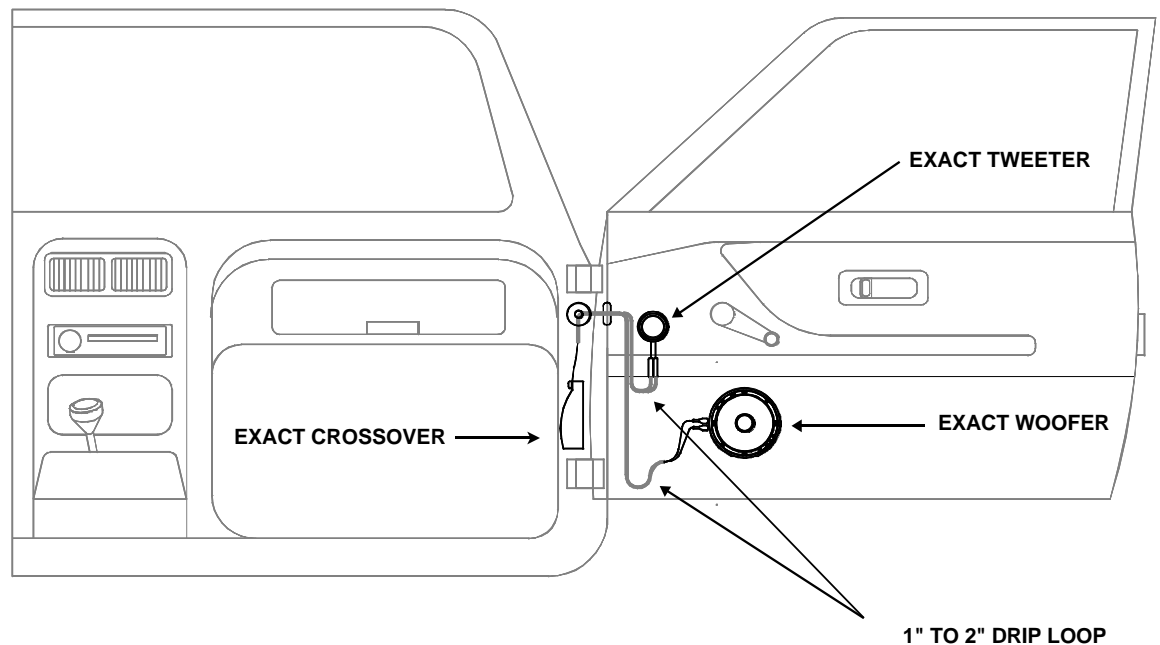

FIGURE 6
- 7) When routing speaker cables to the driver, it is important to form a drip loop in the cable below the level of the driver to keep water from reaching it. See Figure 6.